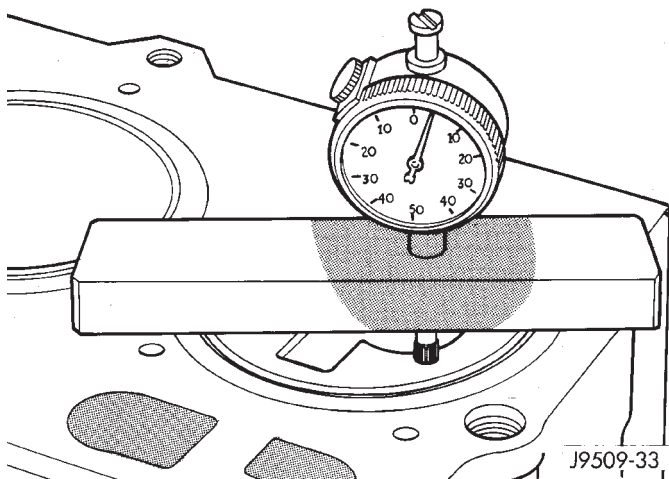

Fig. 22 Measuring Piston Protrusion
(1) Use special tool VM-1010 with dial indicator special tool VM-1013 (Fig. 22).